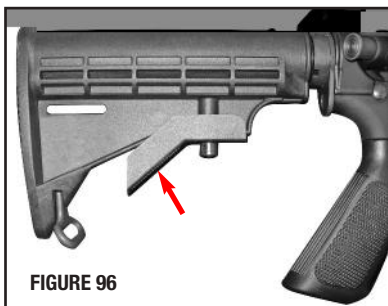

FIGURE 96
- To extend the collapsible stock, depress lever (FIGURE 96) and pull the stock out until it locks into position.